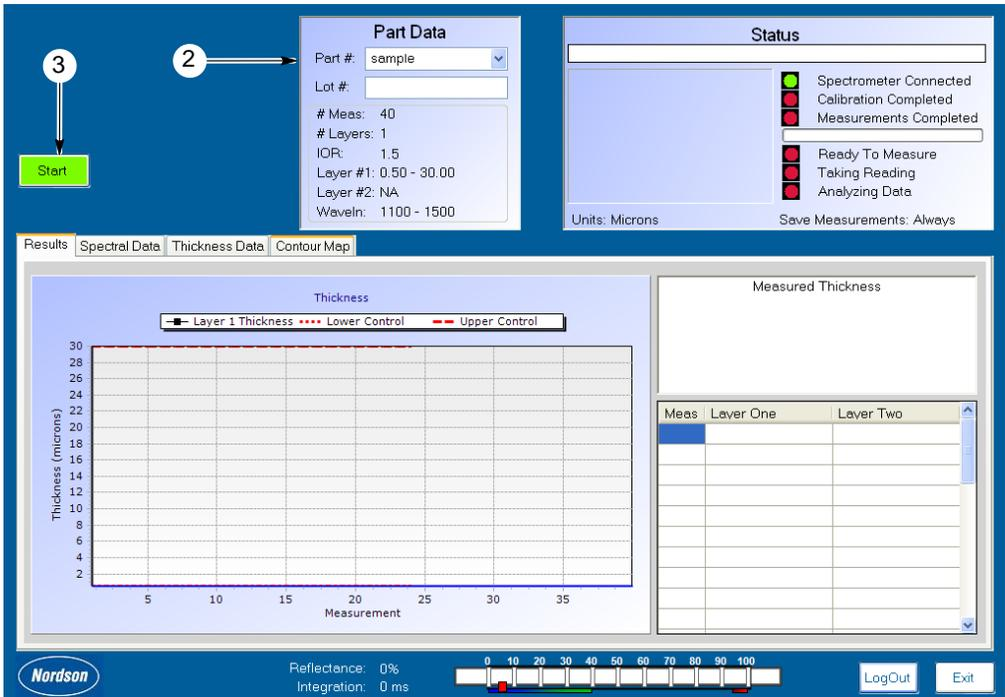

Figure 30 Part Number Selection Displayed
2. See Figure 30. Select the part to be measured. Assigning a *Lot #* is optional.